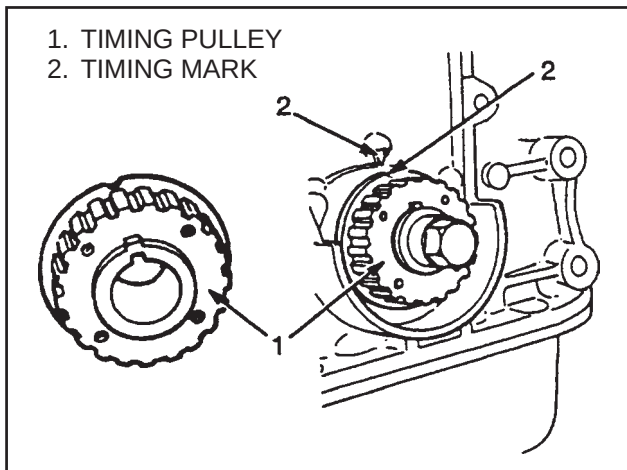

FIGURE 24. INSTALL THE TIMING PULLEY
11. Align the timing marks for the timing pulley. See FIGURE 24. Install the crankshaft pulley, tapered ring and the cap screw. Tighten the cap screw to 177 to 196 N.m (1800 to 2000 kgf·cm).